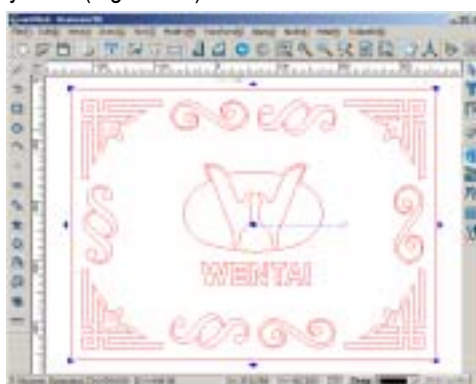

Fig. 12-53
8. Add a box around the symbol. (Fig. 12-53)